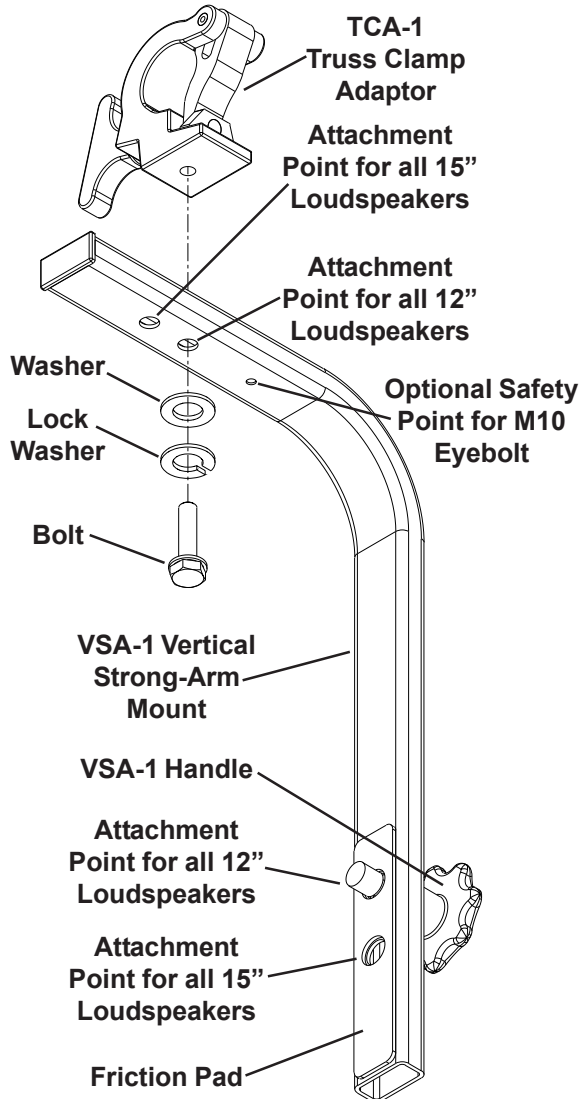

Figure 3:
- The Plasma P1 has an L-track embedded into the top, side, and bottom of the enclosure to provide convenient multi axis suspension and attachment points. The L-track accepts single and double-stud locking, swivel fittings. The optional mounting accessories shown in Figure 3 are available for quick, secure attachment to trusses, or other overhead structures. A threaded hole in the L-track can be used for a single point attachment of the VSA-1 arm for simple and quick suspension with full vertical and horizontal rotation of the Plasma P1.